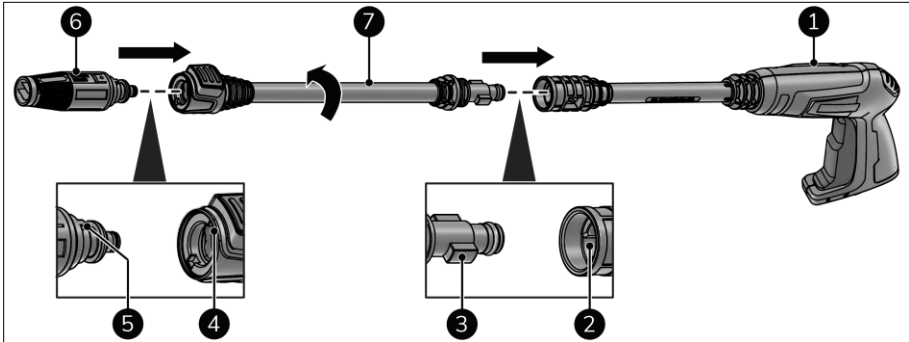

Figure 11
1. Align the ridge of the nozzle (Figure 11, pos. 5) with the groove in the extension lance (Figure 11, pos. 4).
2. Insert the nozzle (Figure 11, pos. 6) into the extension lance (Figure 11, pos. 7).
4. Align the ridge of the extension lance (Figure 11, pos. 3) with the groove in the jet gun (Figure 11, pos. 2).
5. Insert the extension lance (Figure 11, pos. 7) into the jet gun (Figure 11, pos. 1).